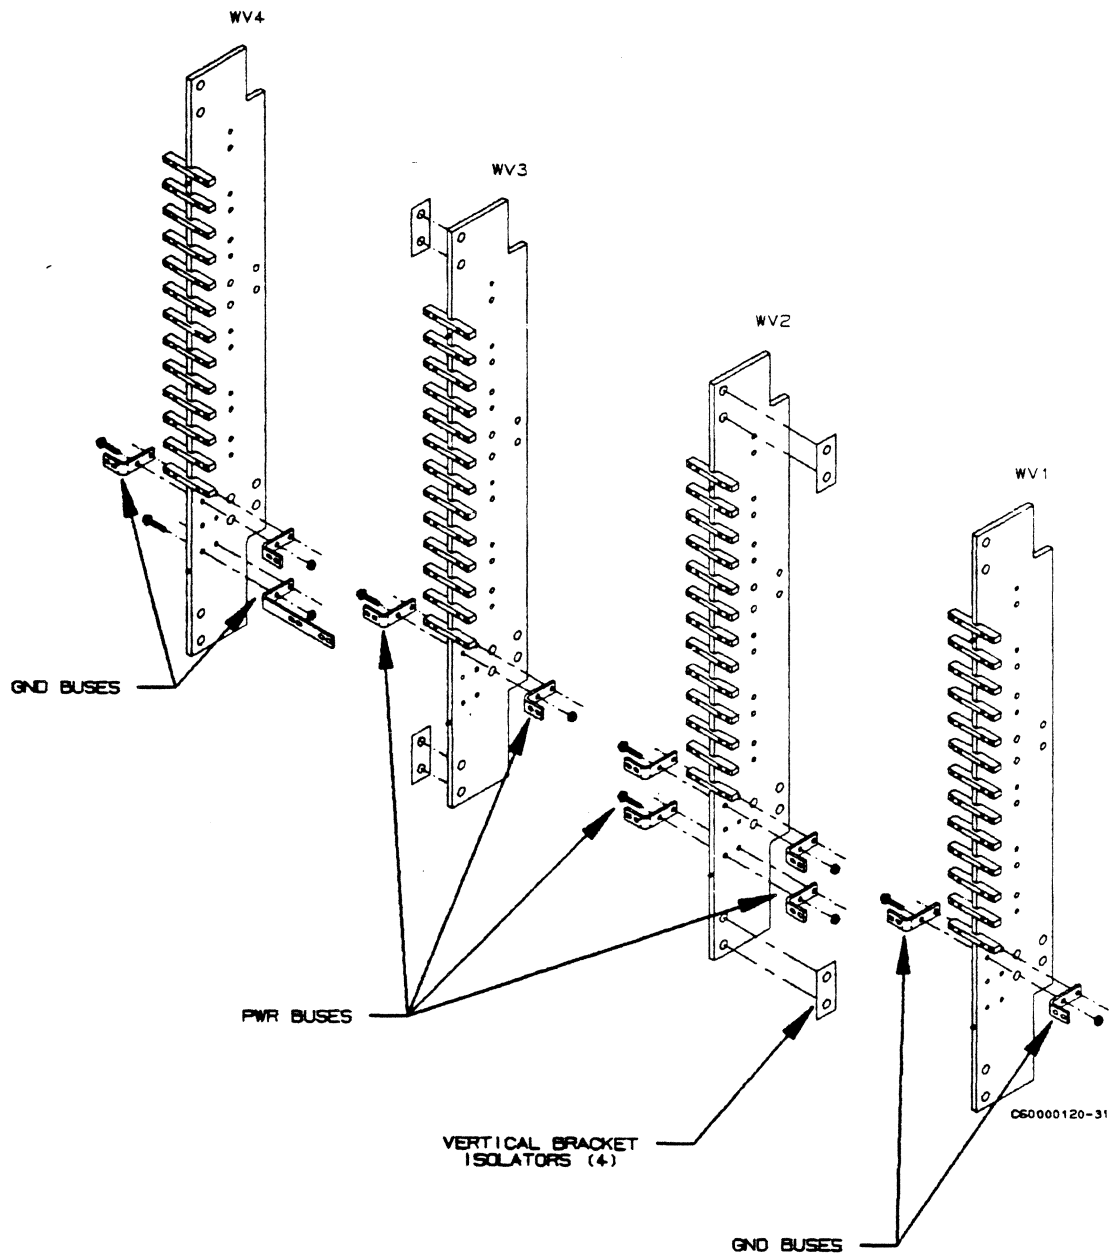

Figure 3-12. Bus Bar Preparation
- b. If Remote IOU is present, install power and ground buses as shown in figure 3-12. Note which mounting holes are used, as well as difference in one WV4 ground bus. Torque mounting screws to 2 N·m (18 lbf·in).